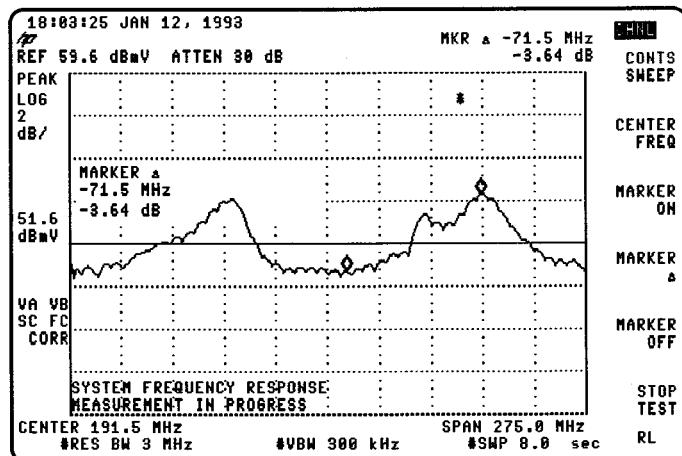

Figure 2-33. System Frequency Response
5. Use **MARKER A** to determine the difference in frequency and amplitude relative to the first marker position as shown in Figure 2-33.